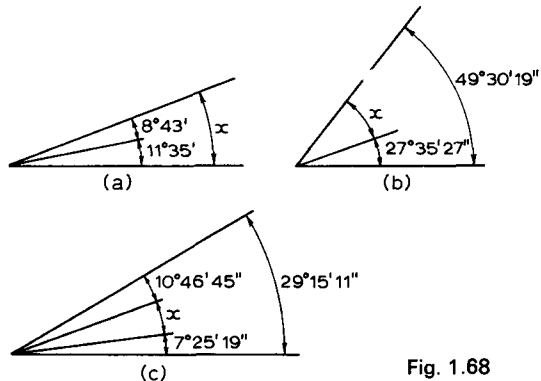

Fig. 1.68
10. Find the angles marked  $x$  in Fig. 1.68.